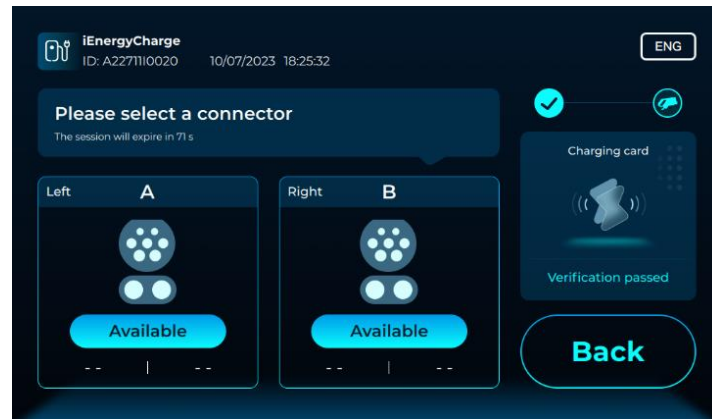

Figure 8-4
2. After successfully swiping the card, you will see the connector selection interface, as shown in Figure 8-4